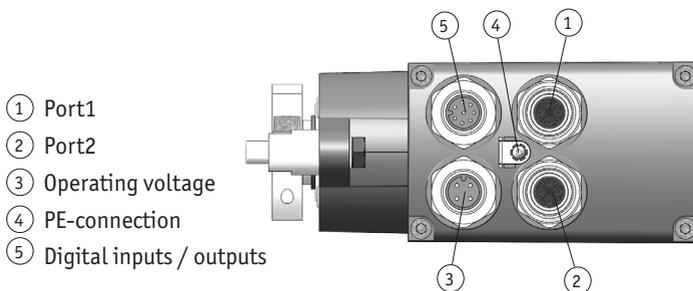
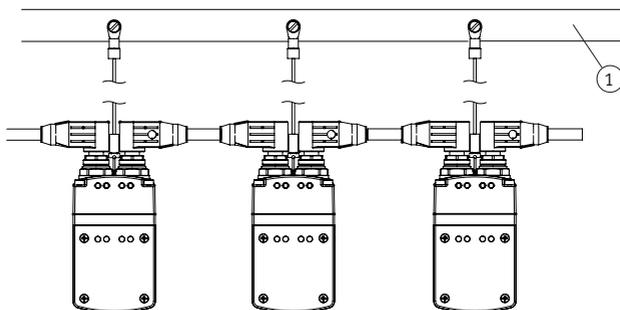

Fig. 7: Pin assignment
Fig. 11: Ground bar
- ① Port1: socket 4-pole M12 D-coded (Fig. 7).
- ② Port2: socket 4-pole M12 D-coded (Fig. 7).
- ③ Operating voltage 4-pole pin M12 A-coded (Fig. 7).
- ⑤ Digital inputs / outputs 8-pole pin M12 A-coded (Fig. 7).
To protect the unit against interference, the shields of the signal lines and power cables must be connected on both sides. Potential differences result in inadmissible currents on the shield. Put the PE connection ④ between the plug connectors on the ground wire potential (Fig. 7). Use 6.3 mm flat connectors with a short strand 2.5... 4 mm² (not supplied). For multiple actuators we recommend that you connect grounding to a PE rail ① (Fig. 11).